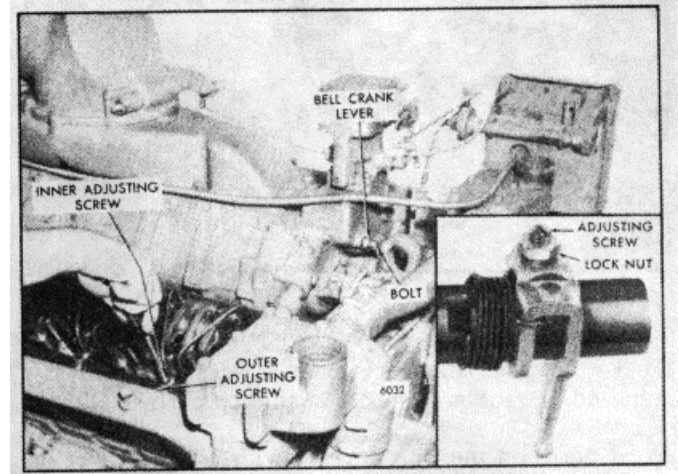

Fig. 2. - Positioning No. 1R Rack Control Lever
5. Place the bolt (removed from the lower end of the vertical link) through the bell crank and into the recessed hole in the governor drive housing (Fig. 2).
screwdriver is noted (Fig. 2). Tighten the screw approximately 1/8 of a turn more and lock securely with the adjusting screw locknut. This will place the No. 1R injector rack in the full-fuel position.